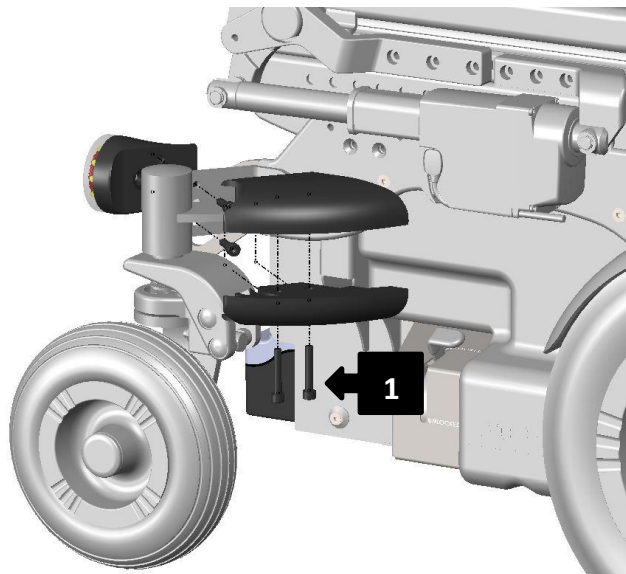
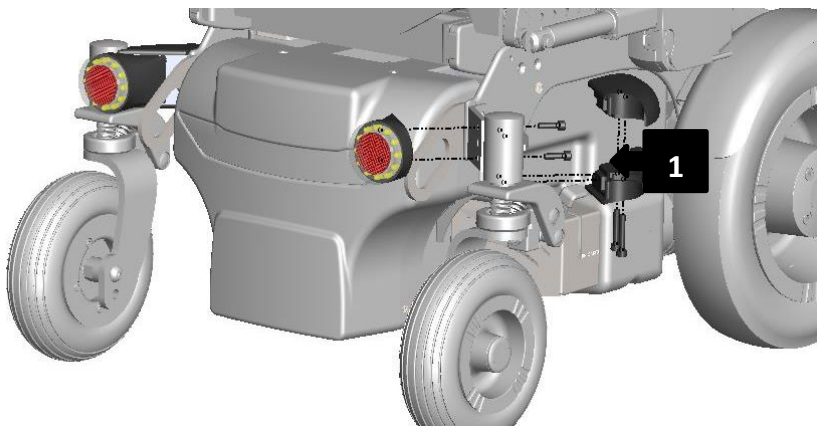

Figure 62
Figure 63
Seeing Figure 62, unscrew the bolt (1) and remove the two parts of the light case. Unplug the cable. Seeing Figure 63, unscrew the two bolt (1) and remove the light.